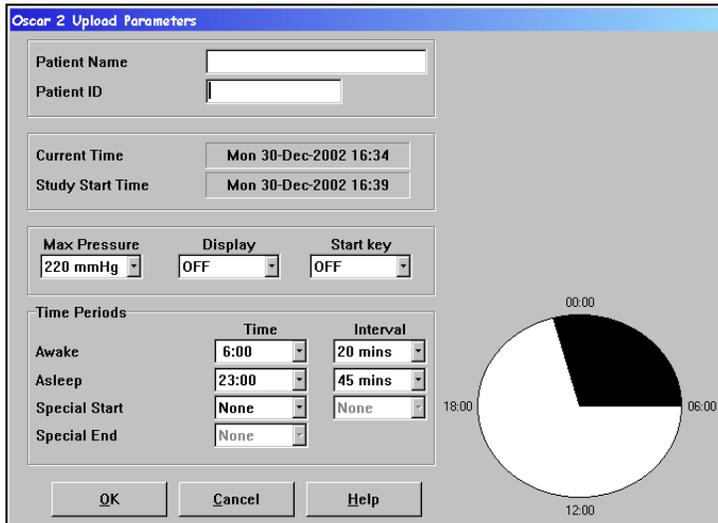

Fig. 17. Upload Parameters dialog box
1. Click **Set default BP study parameters** to display the Upload parameters dialog box (Fig. 17).